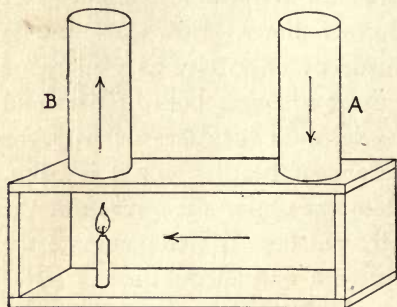

FIG. 28.—CONVECTION IN GASES
76. Convection in Gases. In the case of gases (Fig. 28), a heating of the column of air at the left by the candle flame makes the air column *B* less dense than *A*; therefore column *A* presses down harder than *B* and forces upwards the warm air in *B*. (The front of the box is of glass.) Air will pass up *B* even with the box and *A* removed, as there is cold air on all sides of the candle.
There may be two chimneys of different heights in adjoining rooms (compare Fig. 28), so that when a fire is burning at the bottom of one it may be difficult to start a fire in the other, which has been acting as a course for the cold air downwards.